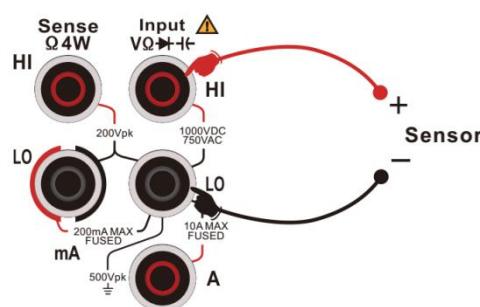

Figure 2-28 Connection of temperature measurement
2) Connect the test leads to the sensor as Figure 2-28. Please be aware of the polarity of thermocouple probe and don't reverse connect.